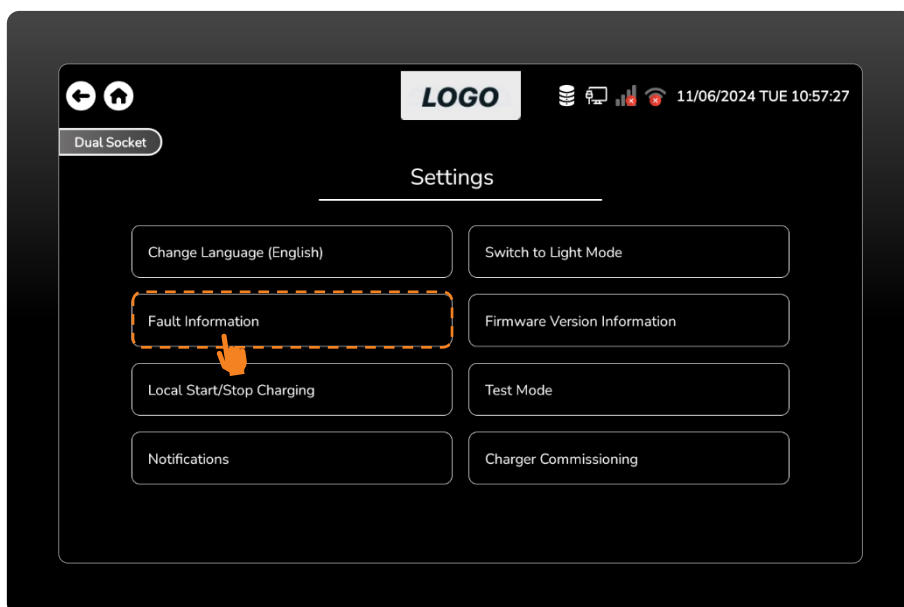

Figure 10 Press the Fault Information.
- Press the "Fault Information" option. It will open the Fault Information screen, where the user can view the fault time, error description, error status, and error source. (Figure 10)